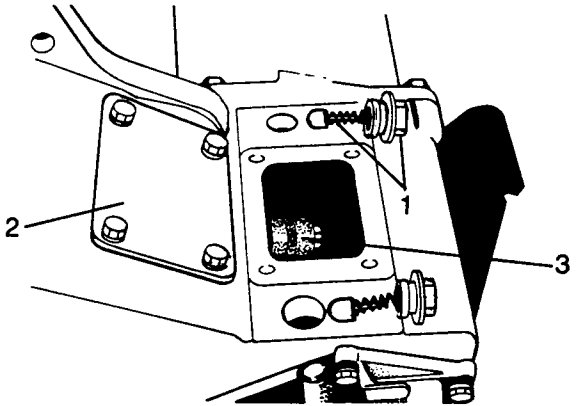

Fig H1.93
- (8) Refer to Fig H1.93. Replace the bolt (3) that fixes the high and low selector fork to the shaft.
- (9) Replace the upper access cover (2) to the selector fork and its washer. Refit the fixing elements.
- (10) Replace the two plug springs and dowels (1) on the high and low selector. (Note that only one spring and dowel is fitted on later models).
- (11) Refit the transfer box assembly to the vehicle (see Sub-sub-section H2.3, Chapter 1).